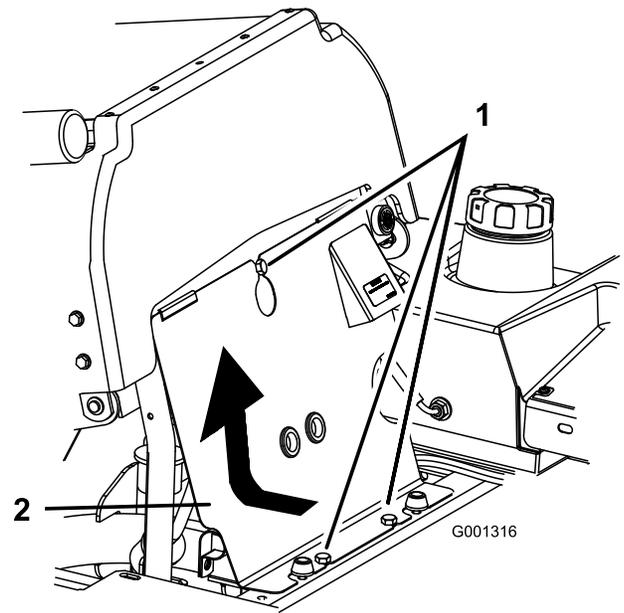

Figure 37
1. Tilt the seat forward, loosen the bolts and remove the front engine panel (Figure 37).